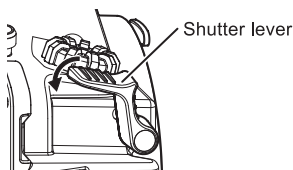
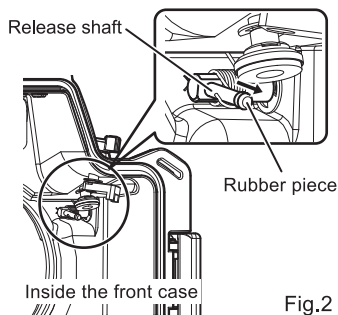

Fig.1
Fig.2
- 1 While pulling the shutter lever toward you (with the lever facing you) or pressing down on the shutter lever (Fig.1), pull the rubber piece at the tip of the release shaft inside the front case to remove (Fig.2).**
- 2 While pressing down on the shutter lever (Fig. 1), slide the release rubber onto the tip of the release shaft and fix into place (Fig.3).**